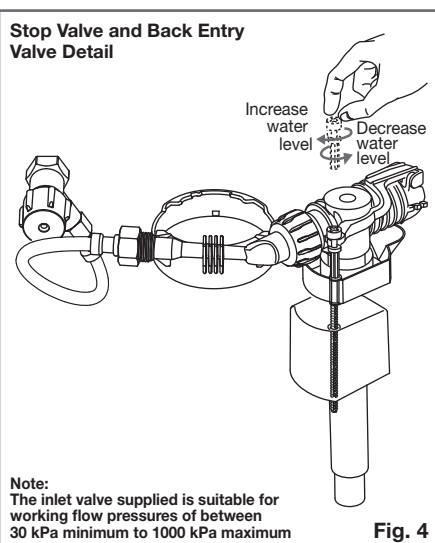

Fig. 4
- 4- Fit cistern stop valve (supplied) to the 1/2 inch B.S.P. nipple in the wall using approved thread seal as detailed in Fig. 4. Connect one end of flexible hose to cistern stop valve.
- 7- Adjust water level to the 4.5 litre water level mark inside the cistern by simply turning the float arm screw in a clockwise or anti-clockwise direction as detailed in Fig. 4.